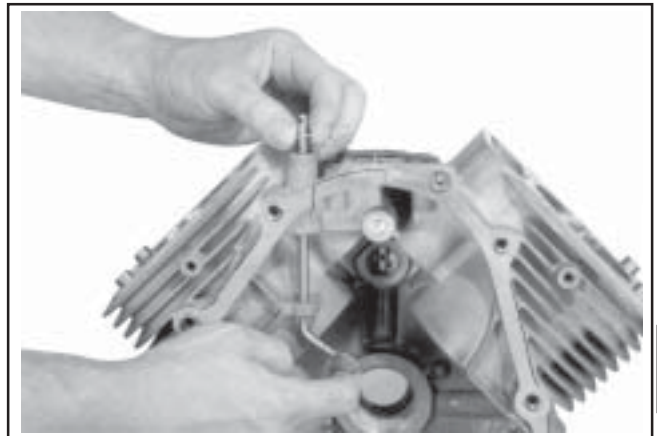

Figure 9-76. Pulling Governor Cross Shaft.
2. Pull the cross shaft with small washer out through the inside of the crankcase. See Figure 9-76.